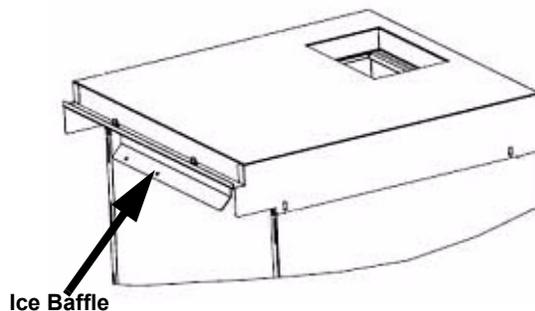

Figure 1.
- 2 Remove ice baffle (see Figure 1) from icemaker adapter using a 11/32 nut driver.